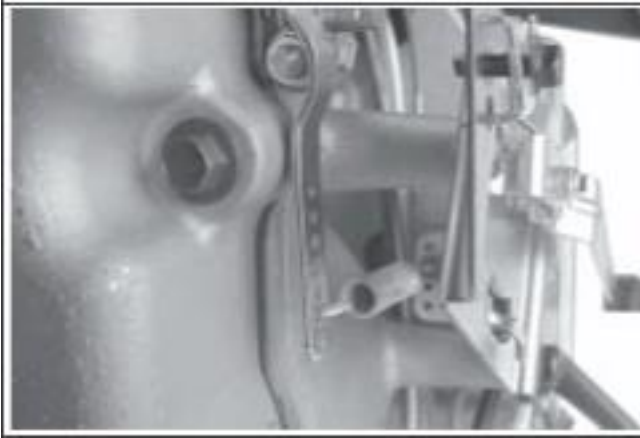

Figure 11-55. Installing Governor Spring.
2. Install the governor spring in the appropriate hole in the governor arm and throttle control lever, as indicated in the chart. Note that hole positions are counted from the top of the lever. See Figure 11-55.